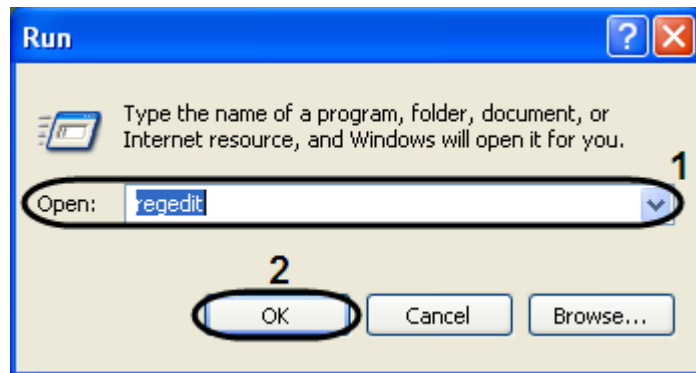

Fig. 9.3-1 Program run dialog window
1. Call for a dialog window Program launch or go to the Start menu and select Run or use the key combination «WIN»+«R» (Fig. 9.3-1).